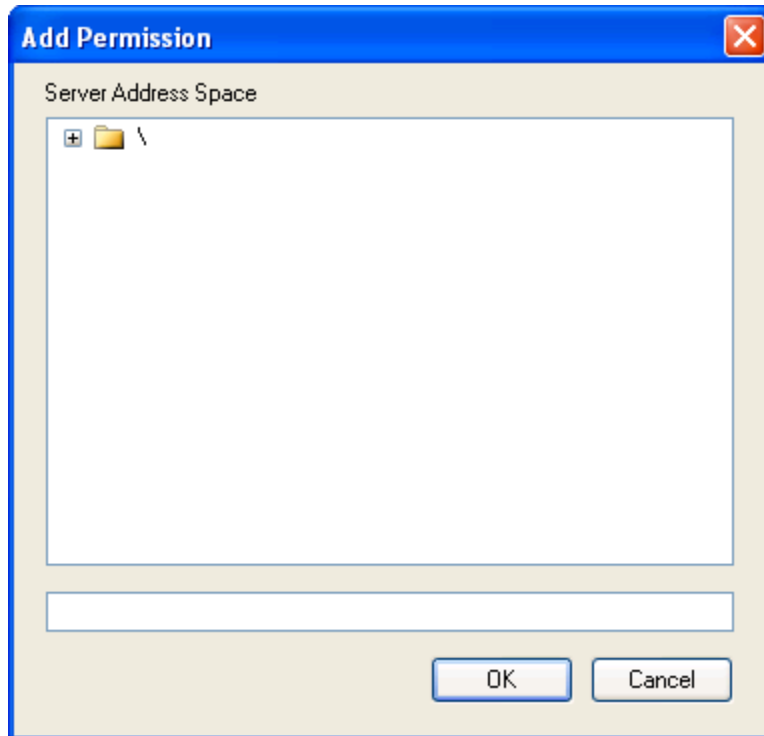

Figure 73 - Add User Permission Window
2. The **Add User Permission** window (Figure 73) appears. This window allows you to browse the OPC server address space to find either a path in the hierarchy, or a particular OPC item.